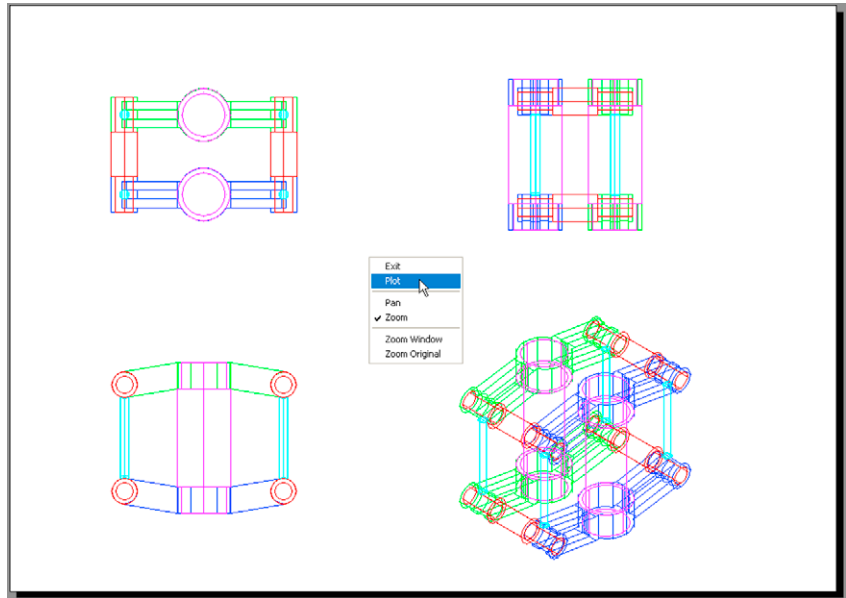

Fig. 19.10 First example – Printing/Plotting
### First example – Printing/Plotting (Fig. 19.10)
11. Click the **Preview** button. The full preview of the plot appears (Fig. 19.10).
1. Open the 3D model drawing of the assembly shown in Fig. 19.10 in a single **ViewCube/Isometric** view.